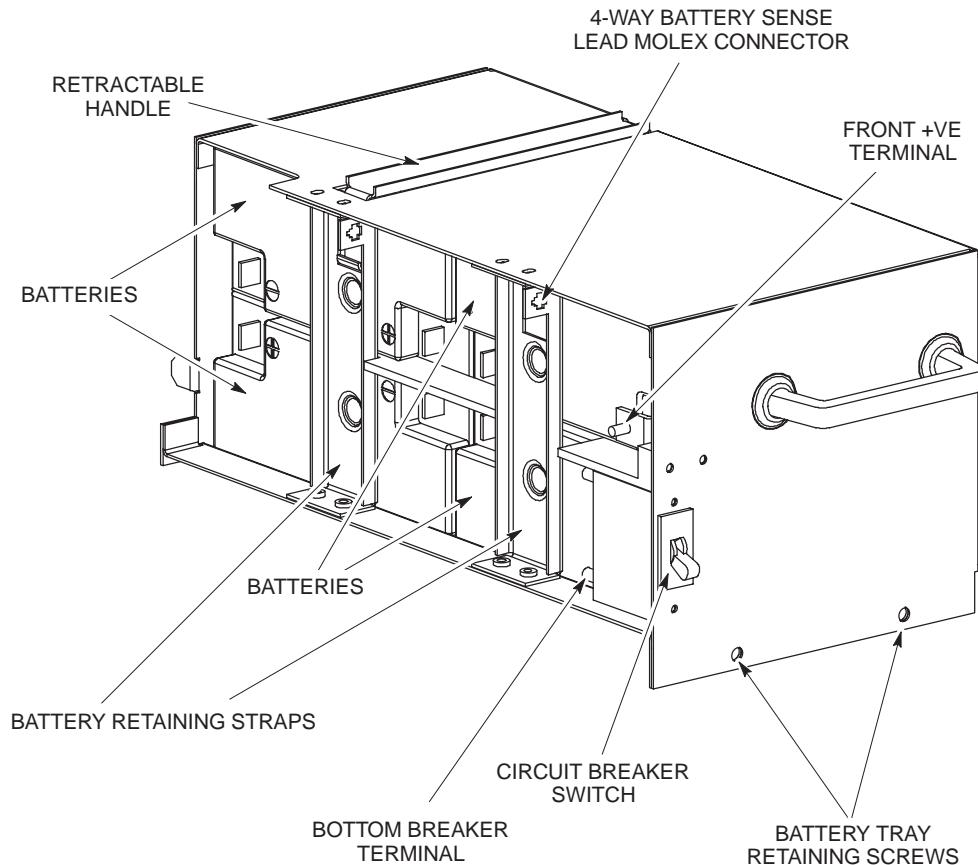

Figure 3-11 Internal batteries, mounted in the battery tray
Figure 3-11 shows the battery tray, with the batteries installed.
2. Undo the two battery tray retaining screws on the lower front panel (see Figure 3-11), and PARTIALLY withdraw the battery tray from the cage.